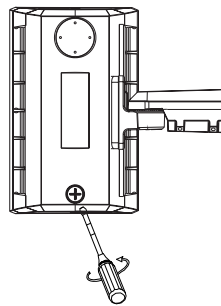

Figure 11
Step 1: Open the metal plug counterclockwise with a screwdriver, then slide the switch up and down to adjust the power controller or CCT controller in your demand (Figure 11).